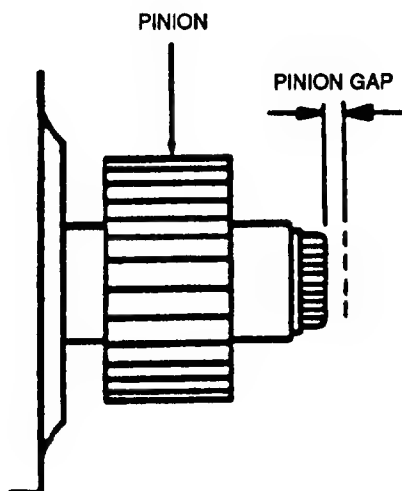

FIGURE 3-26. Checking Pinion Gap
- n. Install solenoid (1) and secure with screws (2).
- (1) Connect a 24 VDC power source positive lead to terminal 'S' on solenoid and negative lead to starter frame.
- (2) Apply power to solenoid and pinion gear will shift.
- (3) Disconnect terminal 'M' wire to stop pinion from rotating.
- (4) Gently push pinion shaft towards solenoid and measure amount of travel, refer to **FIGURE 3-26**. Pinion gap should be 0.0118 to 0.787 in. (0.3 to 2.0 mm).
- (5) Adjust gap by increasing or decreasing number of fiber washers between solenoid and front bracket. Increasing number of washers decreases gap and decreasing number of washers increase gap.